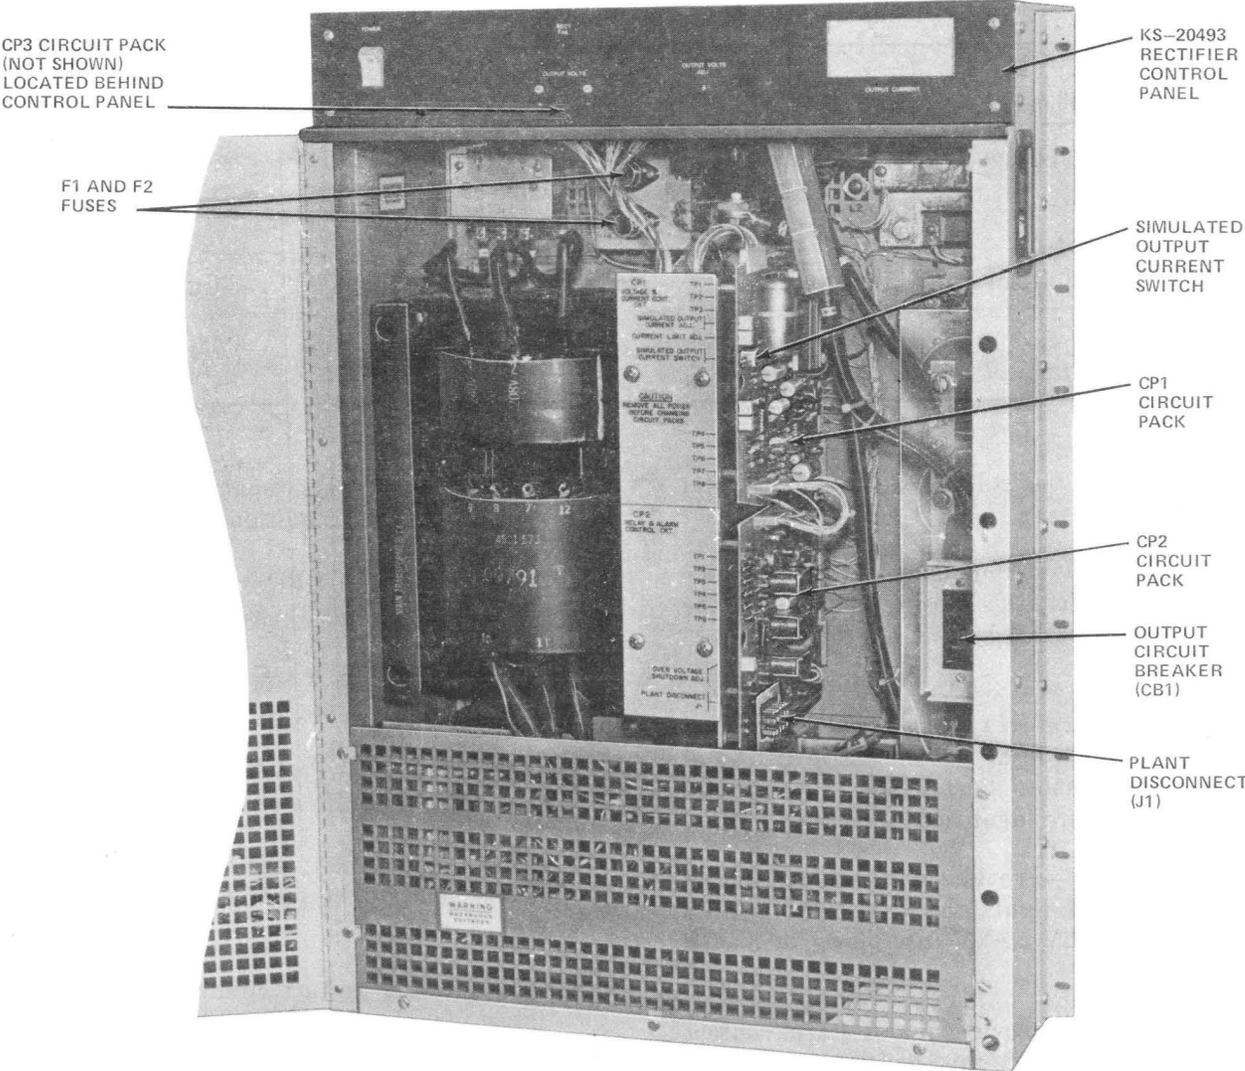

Fig. 10—KS-20493, L21 or L22 (Lorain) Rectifier—Front Panel Removed
**3.15** The regulator and control circuit of the KS-20493 rectifier manufactured by Lorain (Fig. 10) consist of the following printed wiring circuit packs: